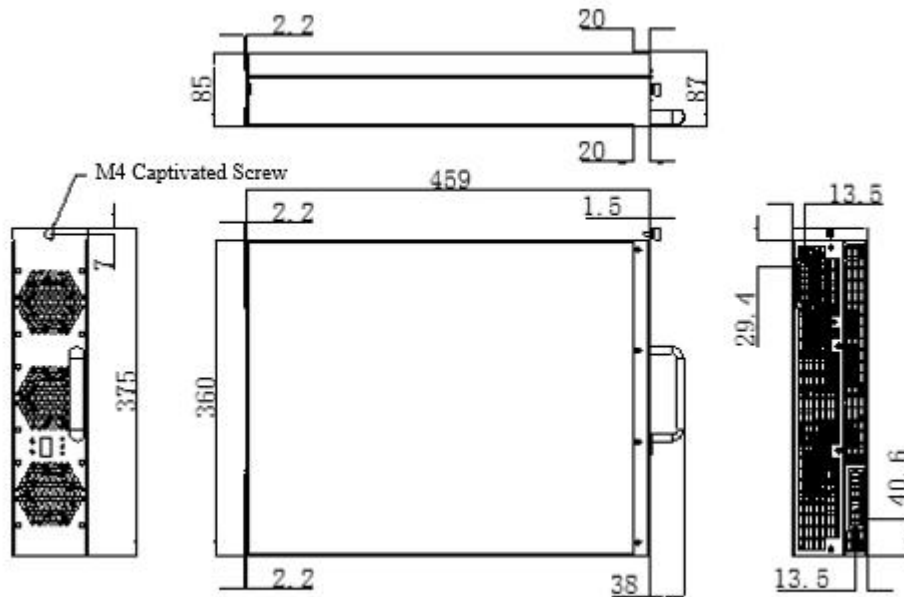

Figure 2-6 Module Dimensions (mm)
2.2.1 The dimension of NXR100030 is shown in figure 2-6